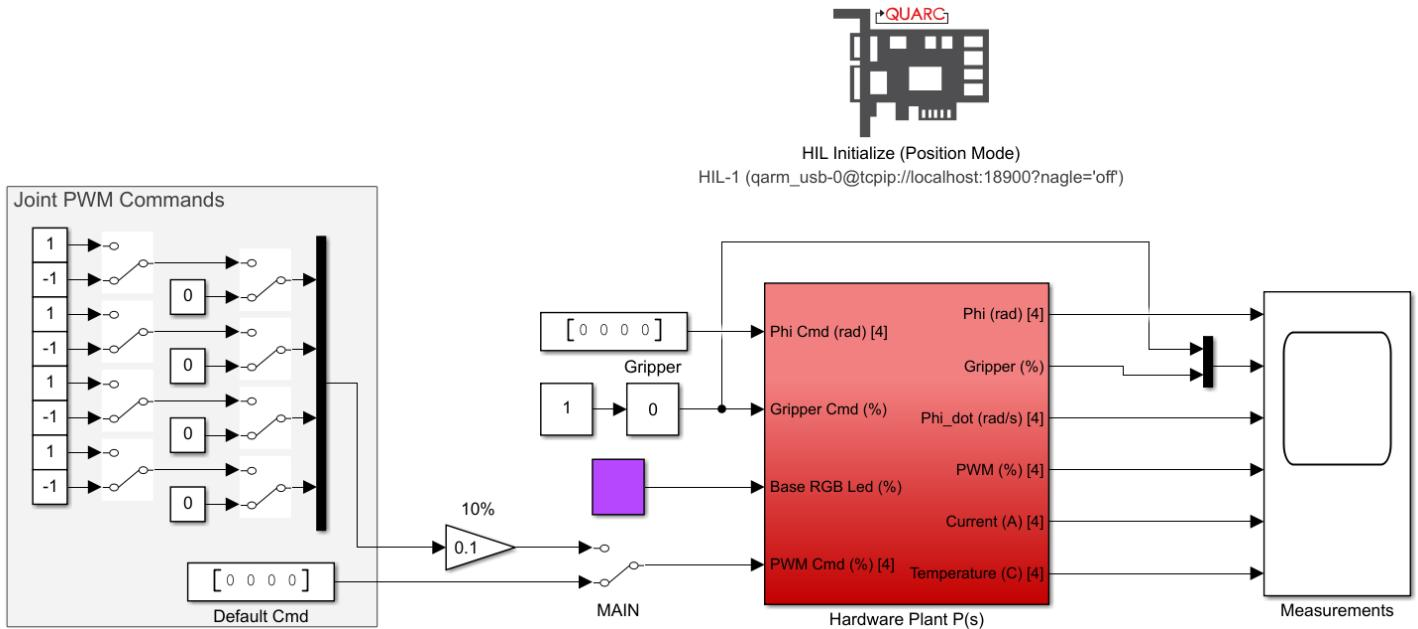

Figure 3: Simulink model that controls the QArm in PWM mode
1. Open the Simulink model **BasicIO_pwm_mode.slx** (Figure 3). You will use this model to command PWM signals to each joint of the manipulator, causing the joint controllers to output a proportional voltage ranging between -12V and 12 V.